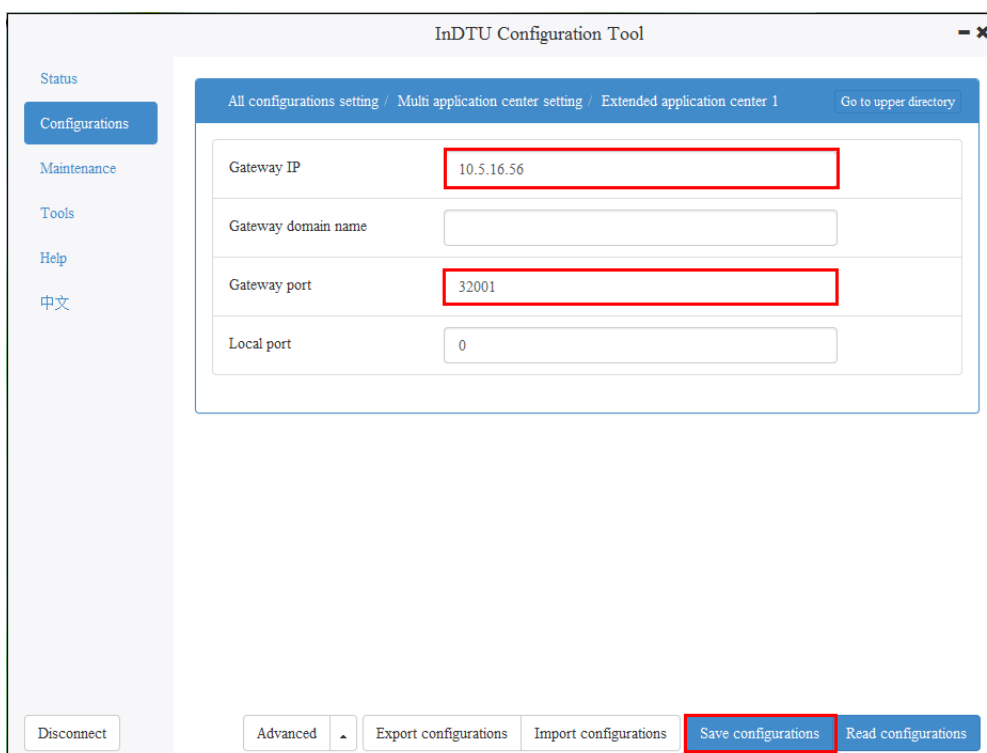

Figure 4-9-4 Dual-SIM switching setting 4
Step 4: If multiple centers need to be configured: choose **Configurations > All Configurations Setting > Multi application center setting > Extended application center 1** and complete the settings, as shown in Figure 4-9-4.